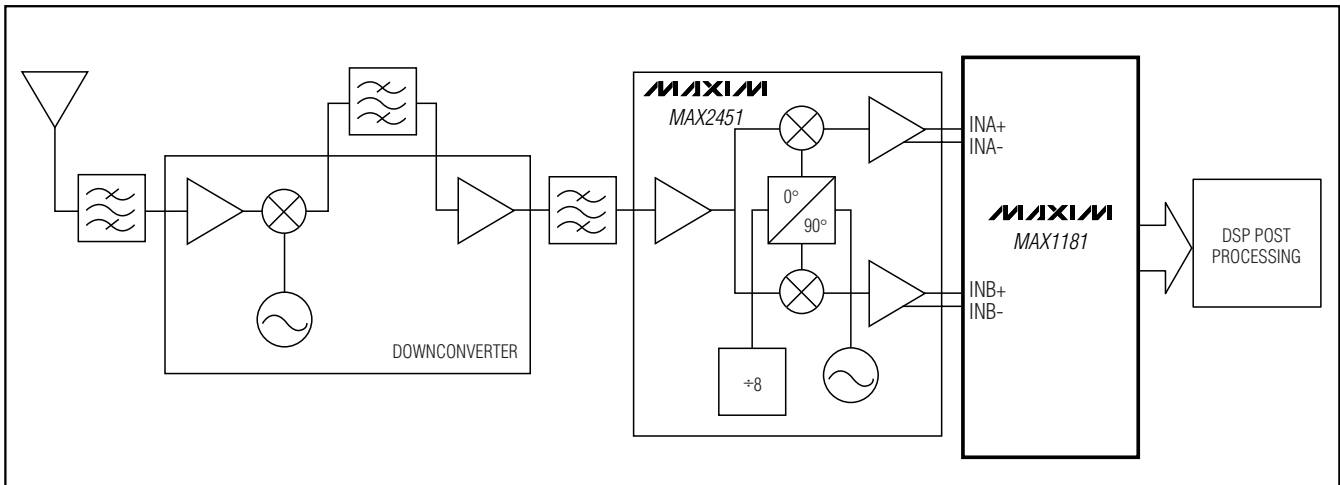

Figure 8. Typical QAM Application, Using the MAX1181
The most frequently used modulation technique for digital communications application is the Quadrature Amplitude Modulation (QAM). QAMs are typically found in spread-spectrum based systems. A QAM signal represents a carrier frequency modulated in both amplitude and phase. At the transmitter, modulating the baseband signal with quadrature outputs, a local oscillator followed by subsequent up-conversion can generate the QAM signal. The result is an in-phase (I) and a quadrature (Q) carrier component, where the Q component is 90 degrees phase-shifted with respect to the in-phase component. At the receiver, the QAM signal is divided down into its I and Q components, essentially representing the demodulation process reversed. Figure 8 displays the demodulation process performed in the analog domain, using the dual-matched, 3V, 10-bit ADCs, MAX1181 and the MAX2451 quadrature demodulators, to recover and digitize the I and Q baseband signals. Before being digitized by the MAX1181, the mixed-down signal components may be filtered by matched analog filters, such as Nyquist or pulse-shaping filters which remove any unwanted images from the mixing process, enhances the overall signal-to-noise (SNR) performance, and minimizes intersymbol interference.